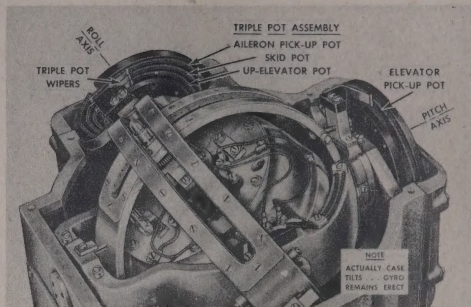
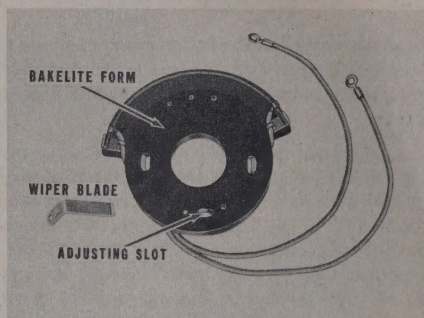
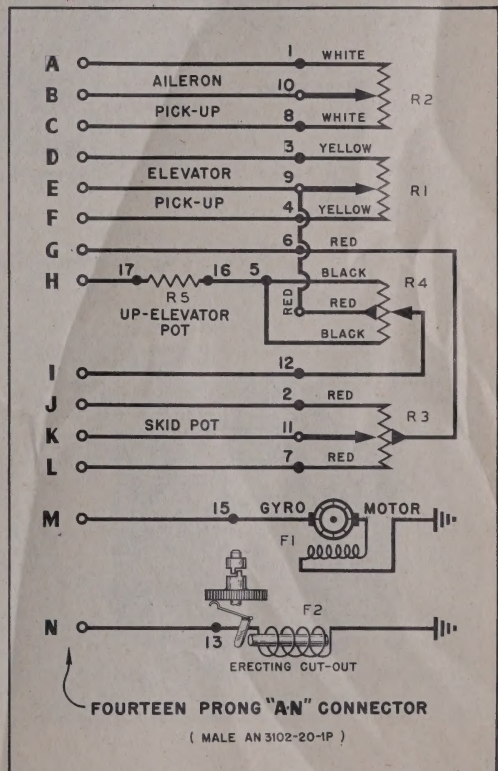

Fig. 29—Pickup Pots in Vertical Flight Gyro
Fig. 30—Elevator Pickup Pot and Wiper
Fig. 34—Schematic Wiring Diagram, Vertical Flight Gyro
1. THE ELEVATOR PICK-UP POT (E.P. U.)—Considering first the pitch axis, it can be seen that, whenever the airplane dives or climbs, the cardan ring tilts around the pitch axis with respect to the gyro housing. Therefore by fastening a pot winding to the case and a wiper to the cardan ring, any deviation of the airplane in the pitch axis will be measured electrically by the pot. This "pitch axis" pot controls the operation of the elevator control surfaces and is therefore called the Elevator Pick-up Pot (Fig. 30). Its location can be seen in Figs. 29, 36 and 37. Its electrical connections are shown in the Internal Wiring Diagram, Fig. 34.
Fig. 34 is an internal wiring diagram showing all the connections in the Vertical Flight Gyro. Note that dead spots are indicated on the Skid Pot and